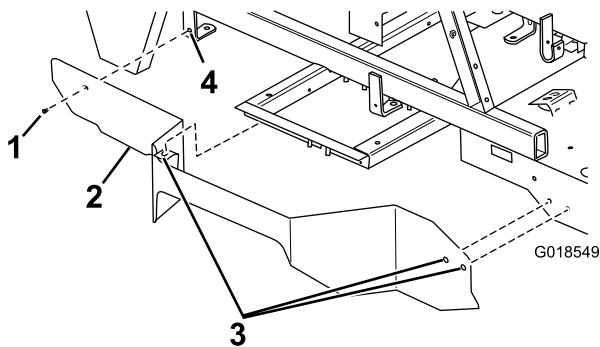

Figure 5
2. Place the right-belt guard onto the right-hand side of the machine (where it is to be installed), line up the holes, and mark the location on the support bracket where you need to drill a hole; refer to Figure 5.
4. Secure the right-belt guard to the right-hand side of the machine using a self-tapping screw and the existing fasteners on the machine as shown in Figure 5.